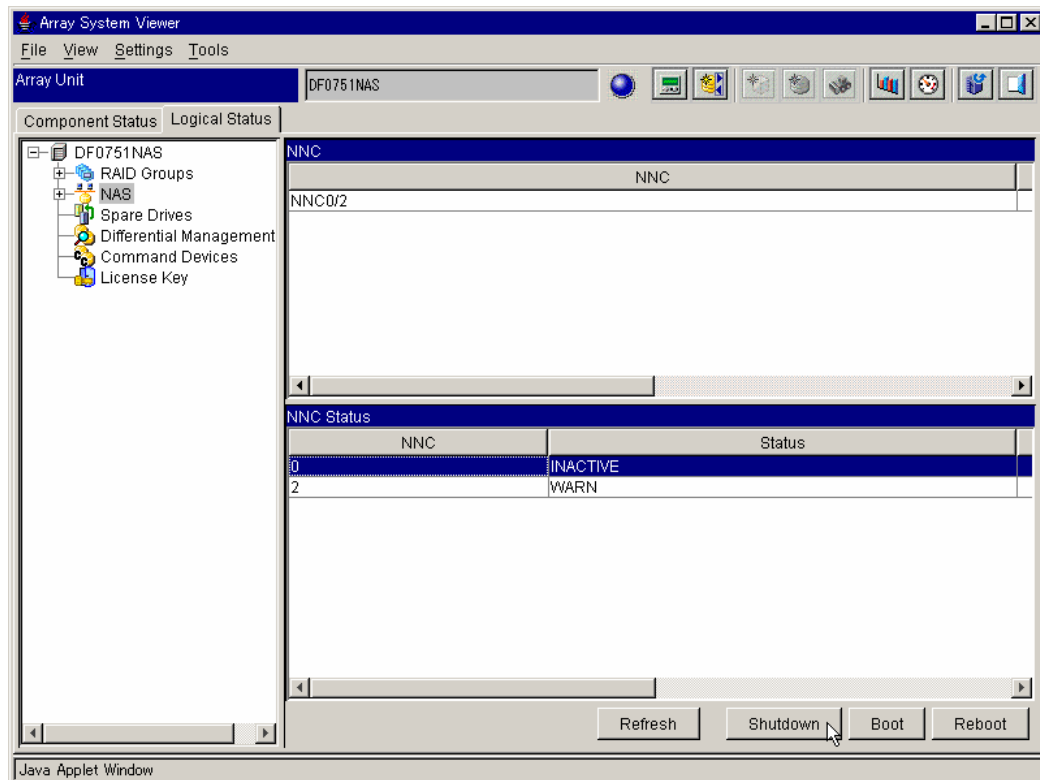

Figure 10.15 Array System Viewer - NNC Status
2. Select the **NAS** icon and then select the **NNC** number on the **NNC Status** list. See Figure 10.15.